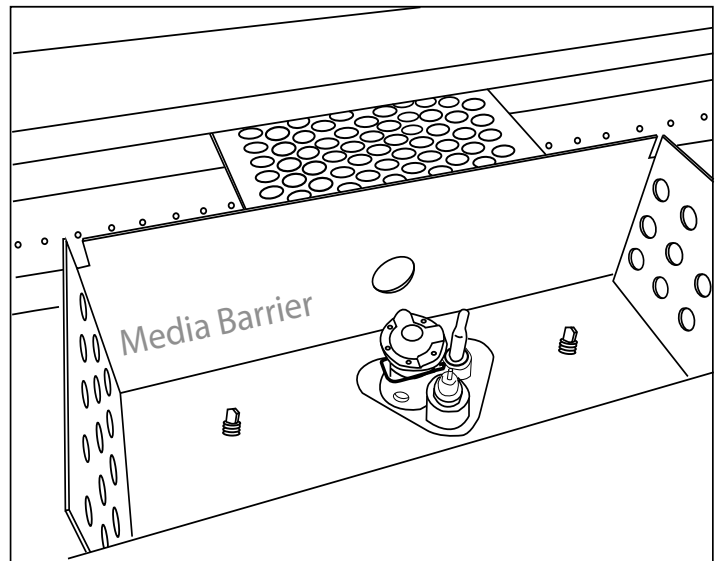

Fig. 6 Show pilot assembly under the pilot hood.
Step 7: In the center of the burner pan where the pilot is located (See Fig. 6), remove the pilot head. **Note:** Some media may need to be removed to gain access.
Once the orifice has been converted to LP then re-install the pilot hood, ensure the clip is in place (if removed) and mount the metal pilot box back into place in the same manner you removed it from the burner pan. See Fig. 6 as a reference.